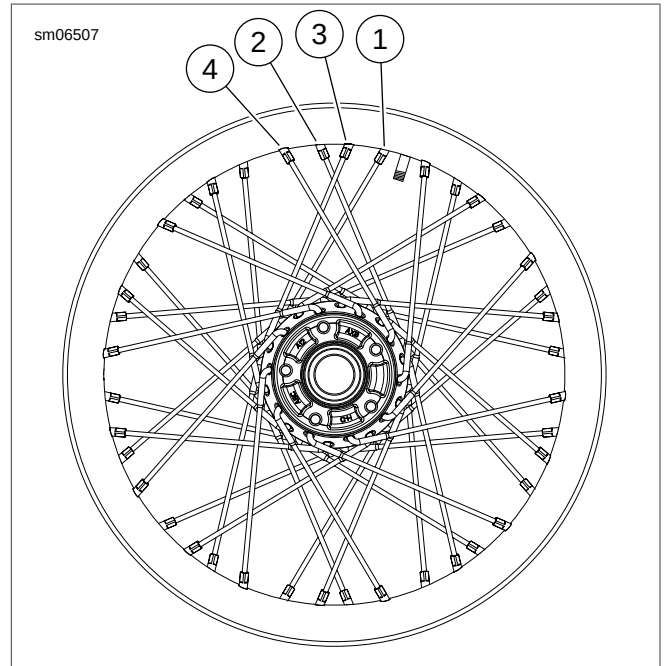

Figure 2-15. Center Valve Rim
- b. **Rim with center valve hole:** See Figure 2-15. Start at the first hole counterclockwise (1) from valve stem hole.
- a. Starting at the 2nd hole counterclockwise (2) from first spoke installed, install inner spoke.
11. Starting at the first hole counterclockwise (3) from first spoke installed, install inner spoke. Install all remaining inner spokes in every 4th hole.
13. Install outer spokes in remaining holes (4).